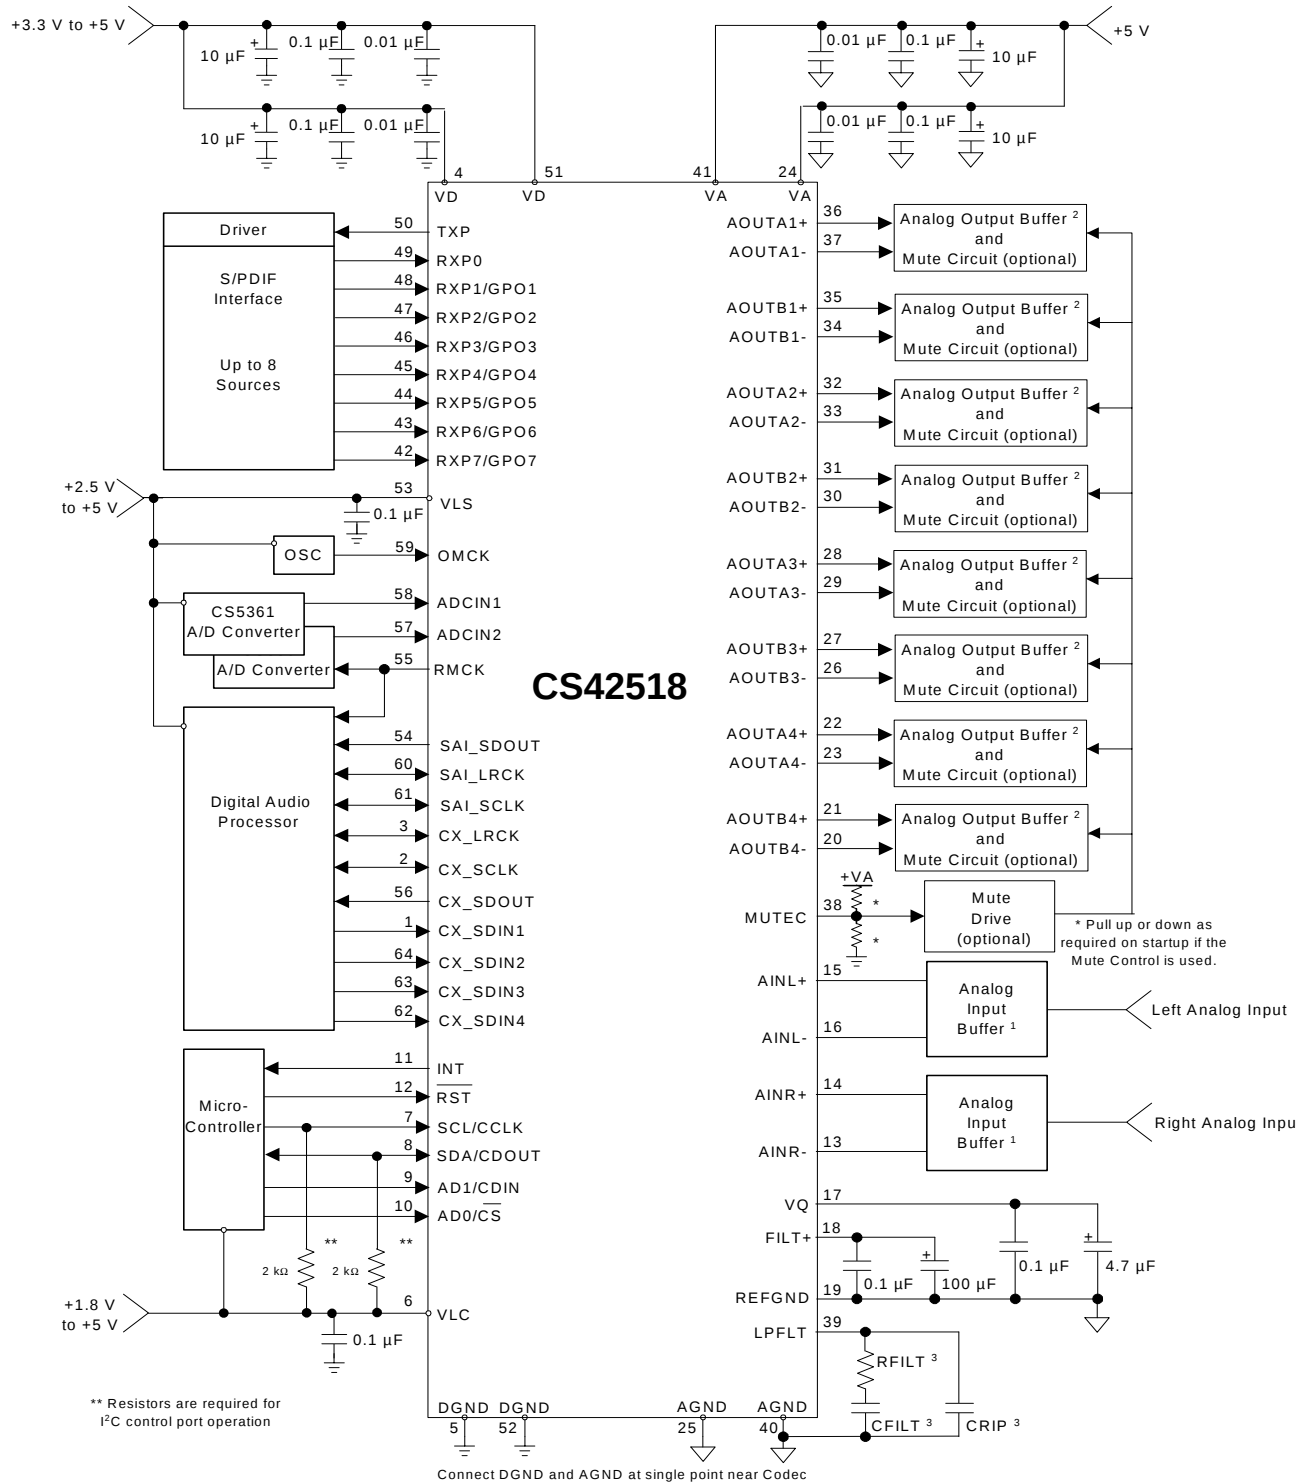

Figure 5. Typical Connection Diagram
26. Valid with the recommended capacitor values on FILT+ and V_Q as shown in Figure 5.
The CS42518 is a highly integrated mixed-signal 24-bit audio codec comprised of 2 analog-to-digital converters (ADC), implemented using multi-bit delta-sigma techniques, 8 digital-to-analog converters (DAC) and a 192 kHz digital audio S/PDIF receiver. Other functions integrated within the codec include independent digital volume controls for each DAC, digital de-emphasis filters for DAC and S/PDIF, digital gain control for ADC channels, ADC high-pass filters, an on-chip voltage reference, and an 8:2 mux for S/PDIF sources. All serial data is transmitted through two configurable serial audio interfaces with standard serial interface support as well as enhanced one-line modes of operation, allowing up to 6 channels of serial audio data on one data line. All functions are configured through a serial control port operable in SPI mode or in I²C mode. Figure 5 shows the recommended connections for the CS42518.